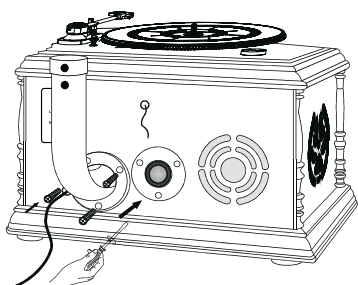

Fig. 5.
4. Look at **Fig5**. Put the RTCC411RIP host cabinet flat on the table, Line the holes on the bottom tube (D) up as shown with the holes on the cabinet so that the open end of tubing face upwards. Rotate three screws C (G) clockwise into the holes. Tighten with a Philips head screwdriver.